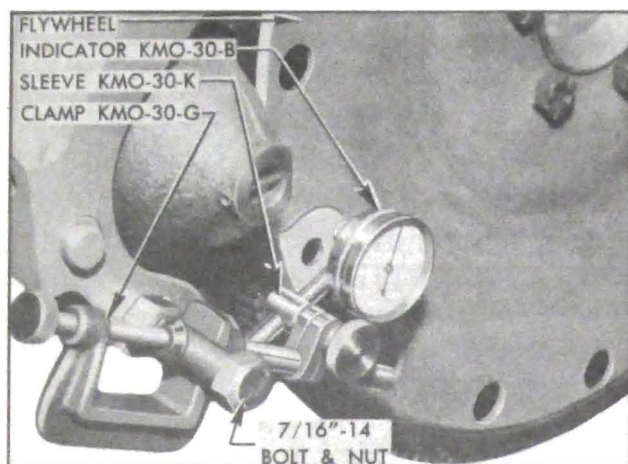

Figure 2-42—Checking Run-Out of Dynaflo Flywheel
4. Mount Dial Indicator KMO-30-B with Sleeve KMO-30-K and clamp KMO-30-G as shown in figure 2-42, so that stem of indicator bears against the ground surface of flywheel at inner side of the large holes.